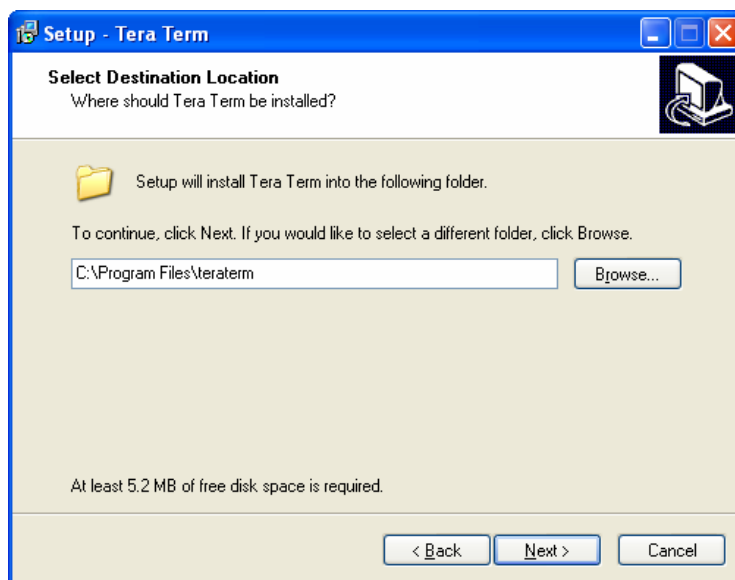

Figure 6-7: Destination Location Screen
9. Select a destination, then click **N**ext (Figure 6-7).